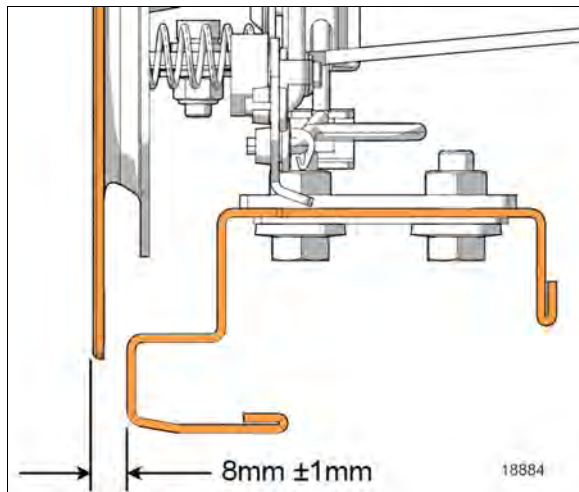

FIGURE 131: STRIKER SIDE TOP VIEW
26. Door exterior panel on latch side should be positioned at  $8\text{mm} \pm 1\text{mm}$  from frame as shown in Figure 131. Make the adjustments by moving the receptacle support.